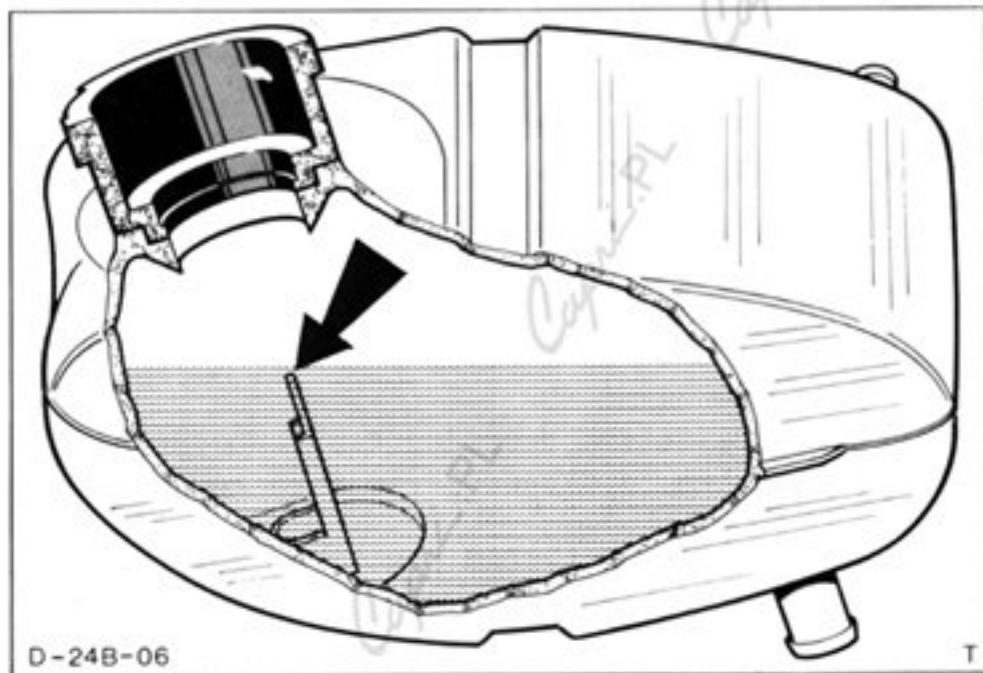

Fig.8. Plastic level indicator in degas tank, maximum coolant level is to top of indicator.
9. Run engine and check all hose connections for leaks. Check and, if necessary, top up coolant in degas tank to top of plastic indicator inside tank, Fig.8. Remove drain trays.